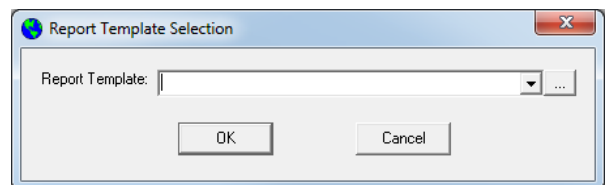

Figure B.24.1 GV_Custom_Rpt Prompt
This program generates the Custom Report summary based on the Report Template specified and analysis information stored in the database. If the Report Template is not valid then a prompt similar to that shown in Figure B.24.1 is displayed for the analyst to select one from the list.
- 2) Report Template name (optional): *The template names are established in Sample Administration Configuration on the Report Templates tab. If an invalid template name is specified then the dialog shown in Figure B.24.1 is displayed to allow the analyst to select a pre-defined template name.*